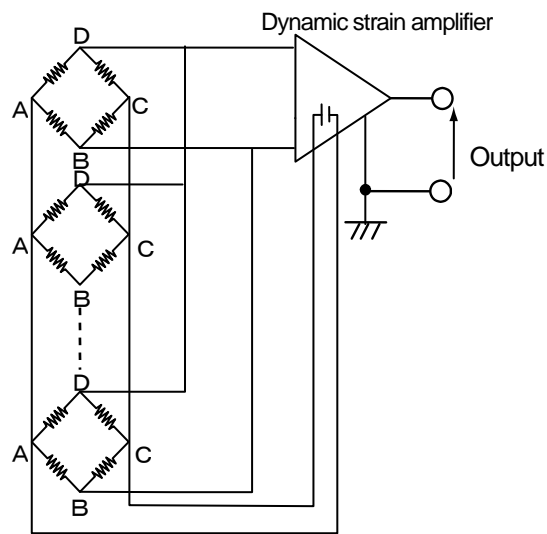

Figure 4-15
(3) When calculating value of mean (Figure 4-15)